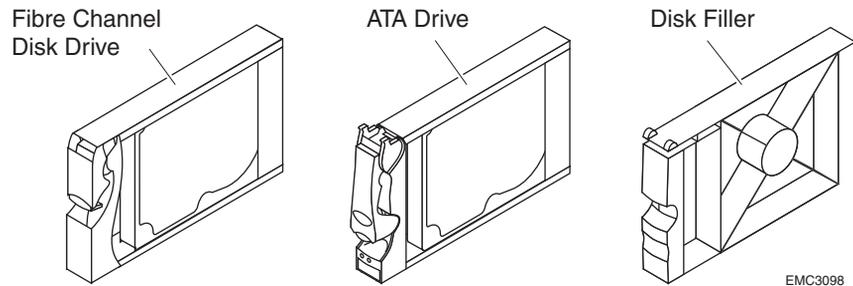

Figure 3-5 Disk Module Comparison
- ◆ Do not mix Fibre Channel and ATA components in the same enclosure. Refer to Figure 3-5 for a visual comparison of FC and ATA disk carriers.